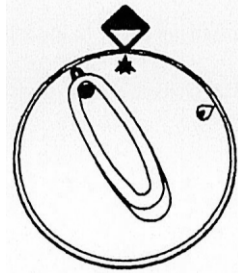

Fig. 2 - Ignition &
- The burner flame can be adjusted by setting the knob position at a point between Fig. 2 and Fig. 3.